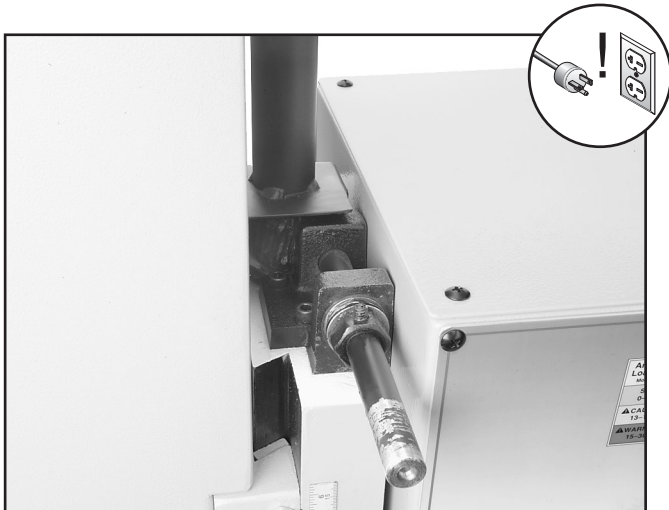

Figure 30. Elevation gears (elevation handwheel removed).
2. Use a 4mm hex wrench to loosen the set screw in the elevation handwheel hub, then remove the handwheel to access the elevation gears, as shown in **Figure 30**.